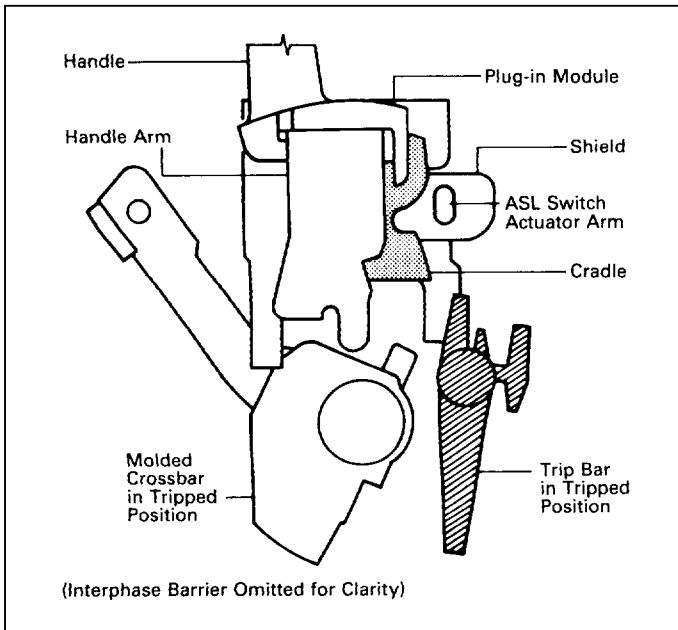
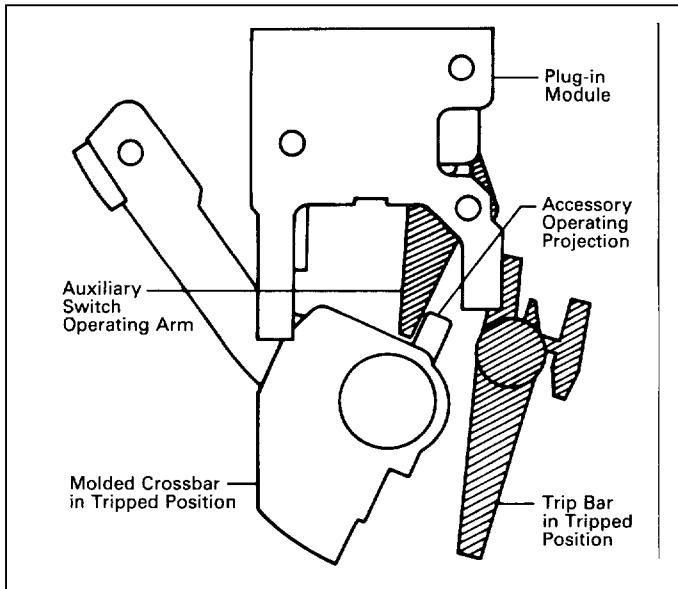

Fig. 2-6. Correct Position for ASL Switch Actuator Arm
Fig. 2-8. Correct Position for Auxiliary Switch Operating Arm
- a. Slide accessory combination plug-in module into mounting slots in base. Replacement interphase barrier must also slide into slots in base. Be sure that ASL switch actuator arm is positioned next to the cradle (see Fig. 2-6) and auxiliary switch operating arm is between the accessory operating projection on the molded crossbar and the arc extinguisher (see Fig. 2-8). For terminal block assemblies, slide terminal block into mounting slot on side of base as accessory combination is being positioned.